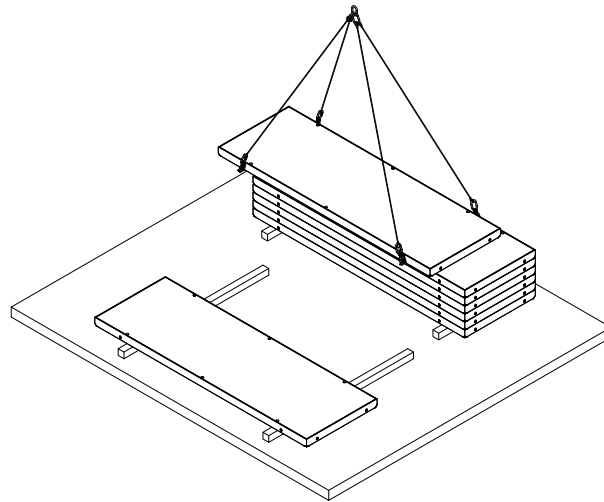

Fig. 53.1
**2.** Move one panel at a time onto dunnage face-up (Fig. 53.1). Dunnage should raise the panel at least 5 1/2" and be clear of the lift points to allow access for crane hooks.